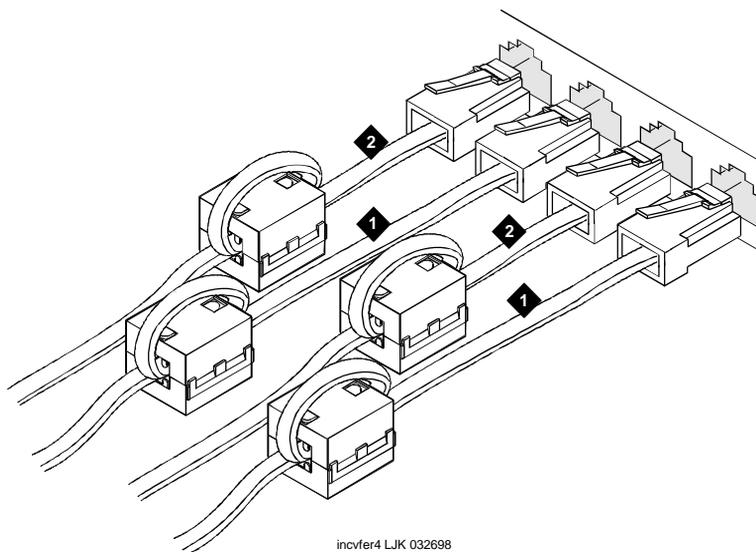

**Figure 4. Example Ferrite Installation**
- If the cable is to be wrapped around two ferrites, make sure the ferrites are close together (Figure 4).